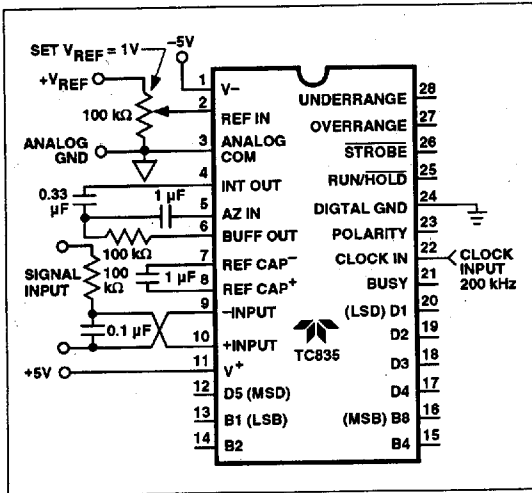

Figure 1 Test Circuit
9. Test circuit shown in Figure 1.